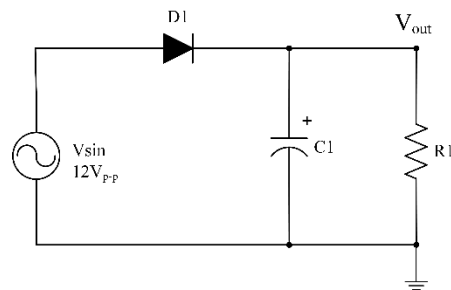

Figure 2
2. Build the one-way rectifier given in Figure 2, observe the output signal when the capacitor is connected and when it is not. Choose $R1=1k\Omega$, $C1=1\mu F$, and $R1=100k\Omega$ and $C1=100\mu F$. Examine the operation of the circuit and record the results. Diode is 1N4001.